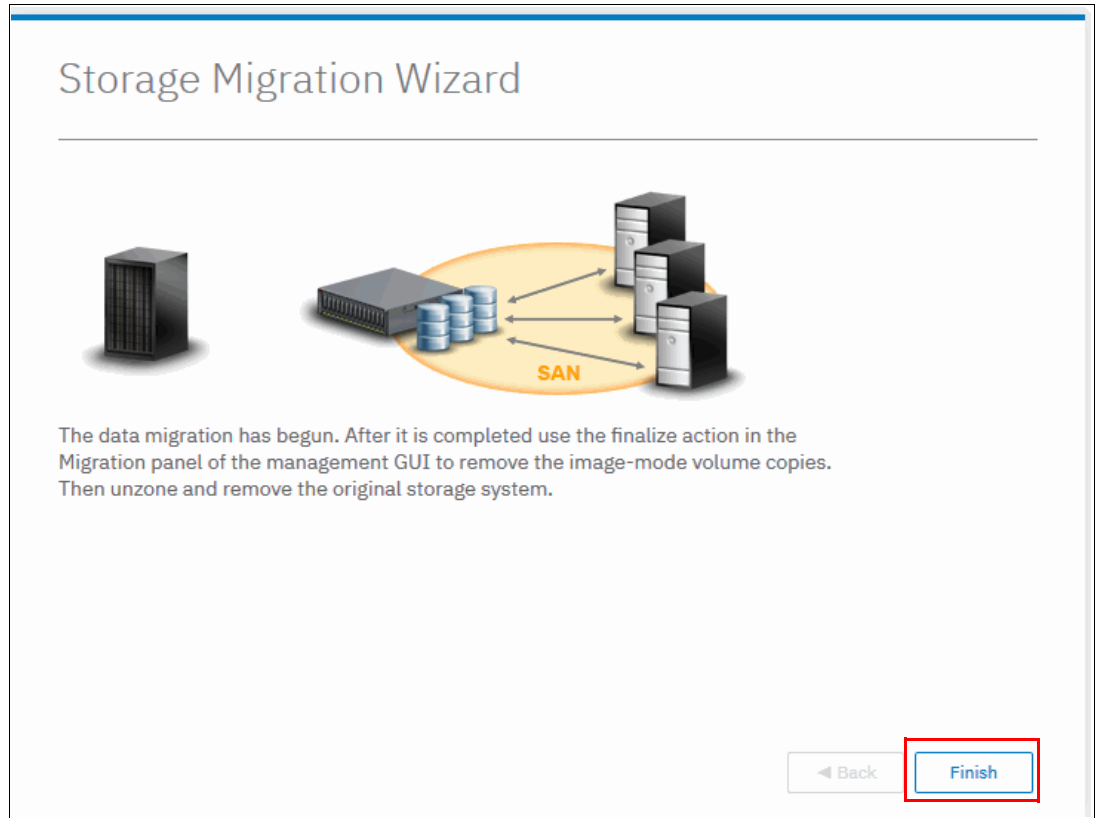

Figure 7-24 Migration wizard complete
1. Click **Finish** to end the storage migration wizard, as shown in Figure 7-24.